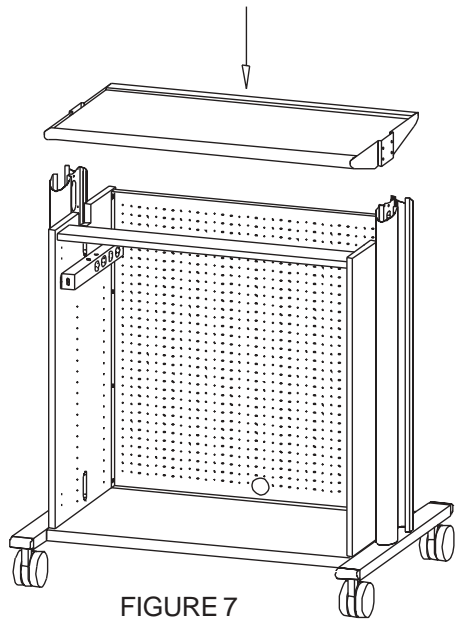

FIGURE 7
Slide the top shelf on between the uprights as shown in **FIGURE 7**. Align each cart handle with one of the 2 sets of holes on both sides of the top shelf. Secure the handle and top shelf to the upright with screws (AA) as shown in **FIGURE 8**. Once the top shelf is secure, **TIGHTEN THE SIDE PANELS IN PLACE.**